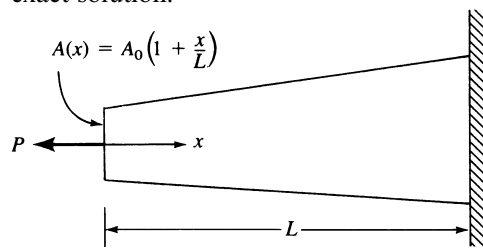

Figure P3-12
- 3.12 Solve for the axial displacement and stress in the tapered bar shown in Figure P3-12 using one and then two constant-area elements. Evaluate the area at the center of each element length. Use that area for each element. Let $A_0 = 2 \text{ in}^2$, $L = 20 \text{ in.}$, $E = 10 \times 10^6 \text{ psi}$, and $P = 1000 \text{ lb}$. Compare your finite element solutions with the exact solution.